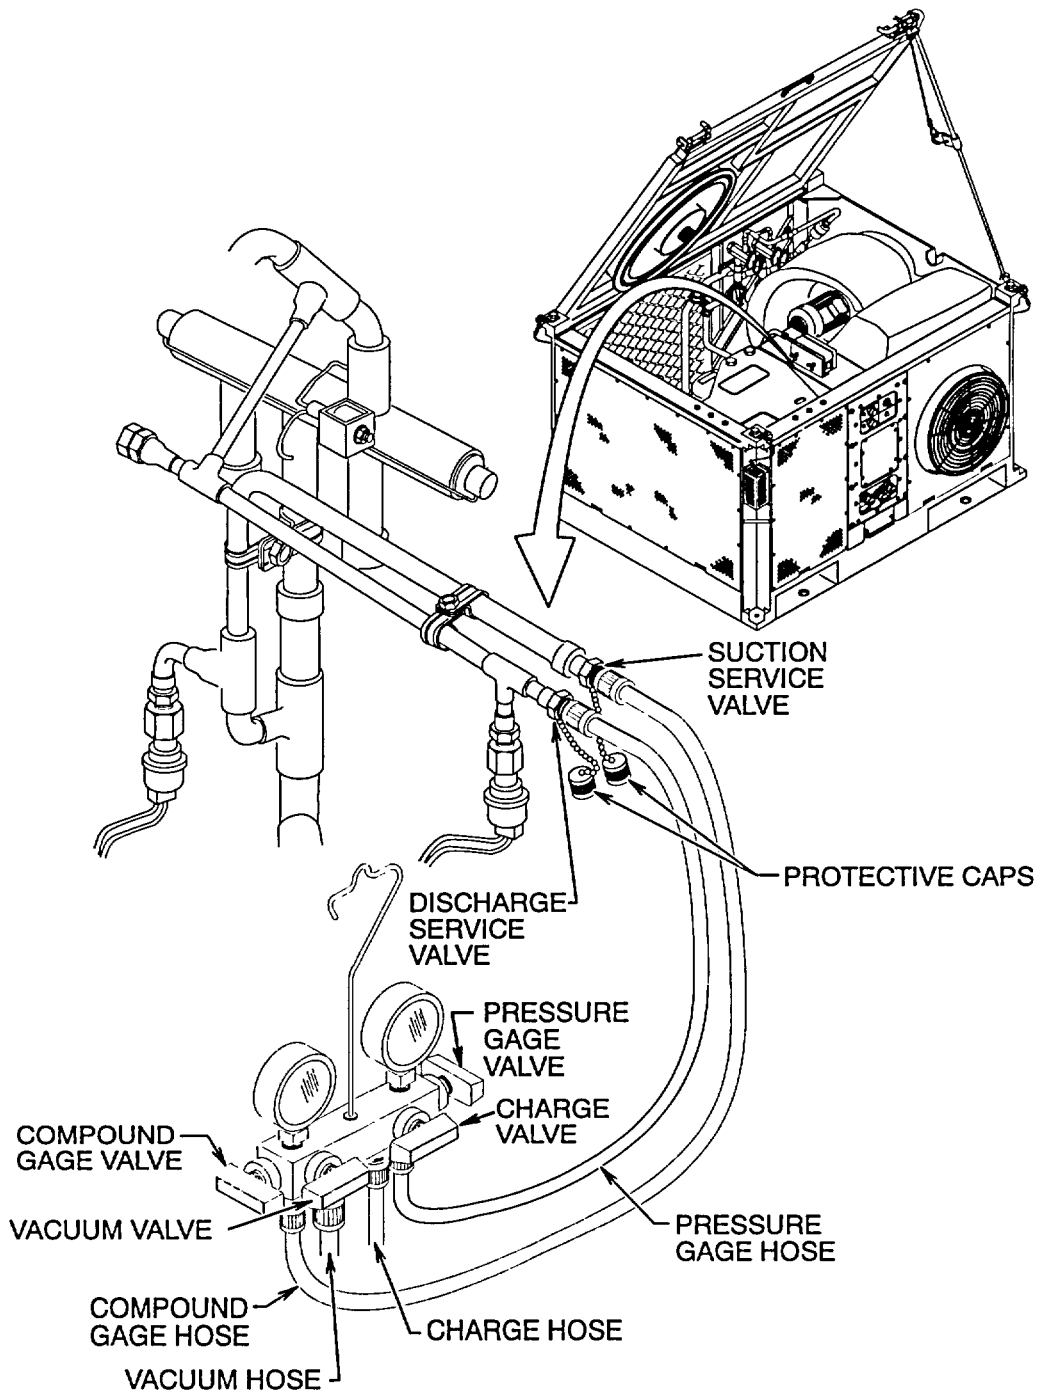

Figure 5-3. Removal And Recovery Of Refrigerant
a. Removal/Recovery. See figure 5-3.
- (1) Install service manifold per paragraph 5.3.